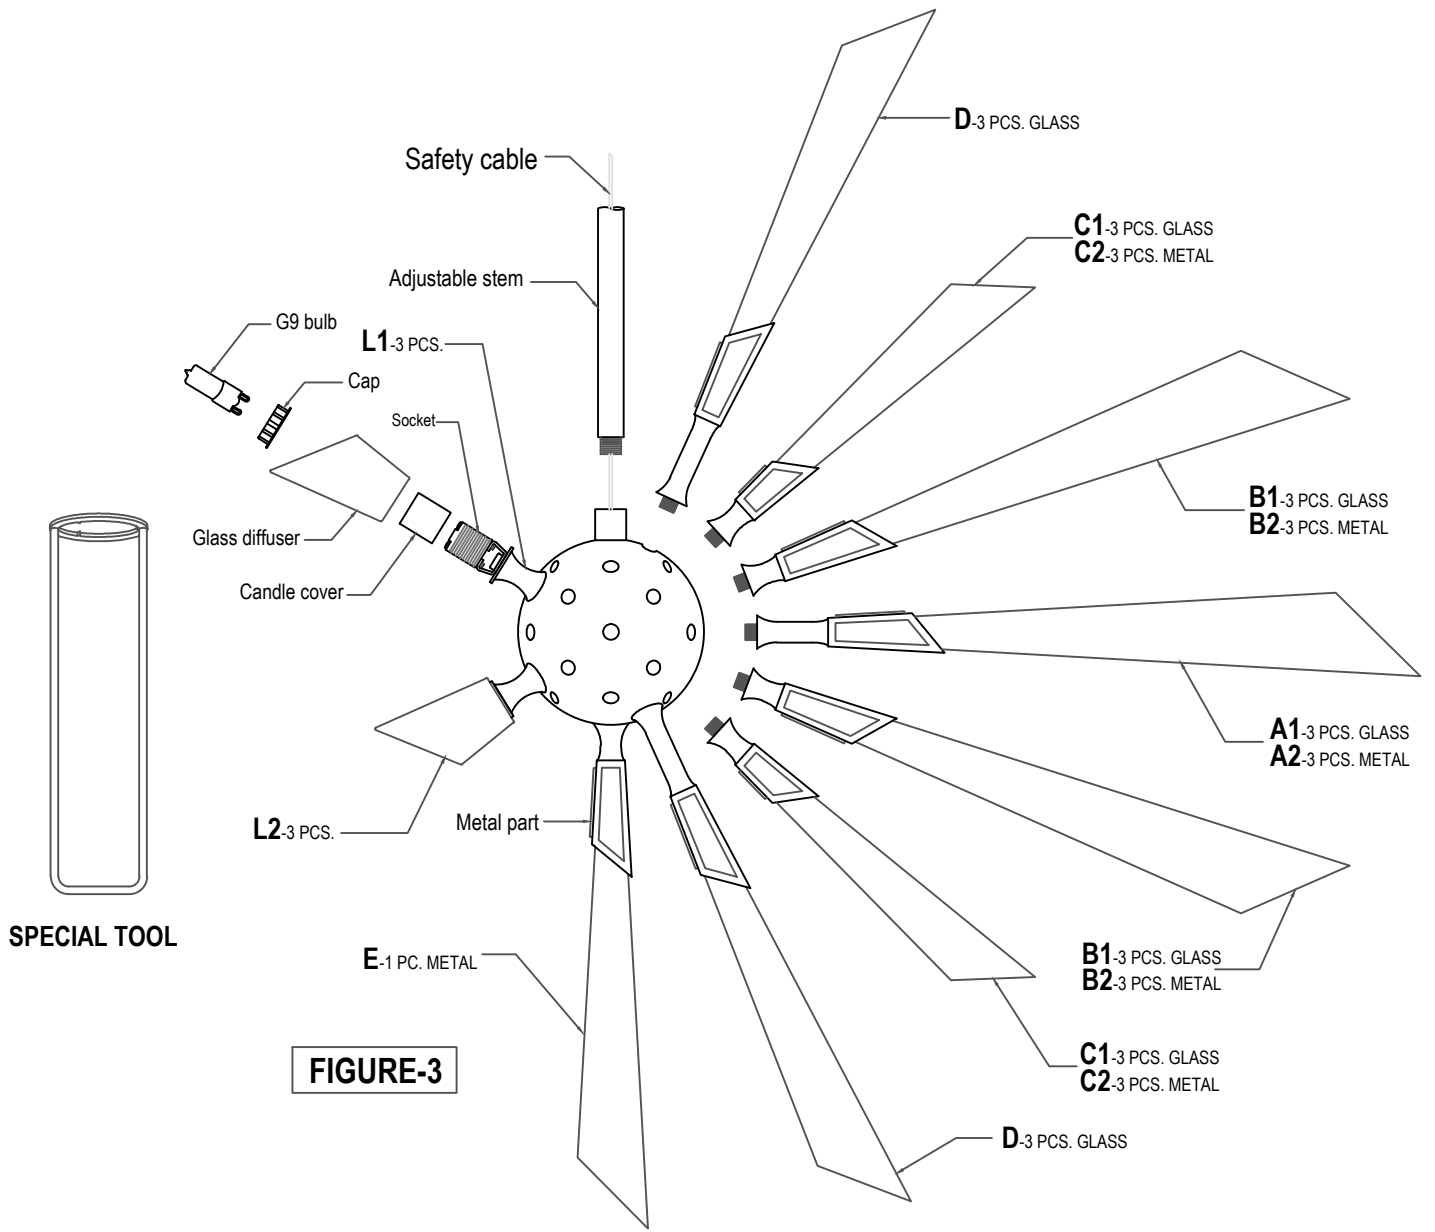

FIGURE-3
10. Place the glass (See figure-3) using the special tool supplied.
12. Thread the glass/metal prism to the distributor, Following the prism schedule given (See figure-3, 4, & 5)